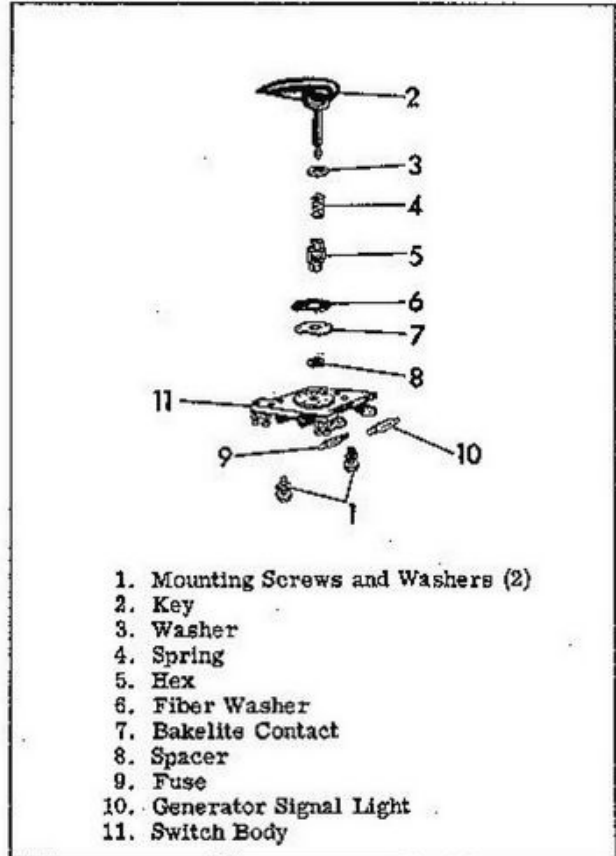

Figure 5C-3. Ignition-Light Switch (1963 & earlier)
**DISASSEMBLING IGNITION-LIGHT SWITCH** (See Figure 5C-3)
**ASSEMBLING IGNITION-LIGHT SWITCH** (See Figure 5C-3)